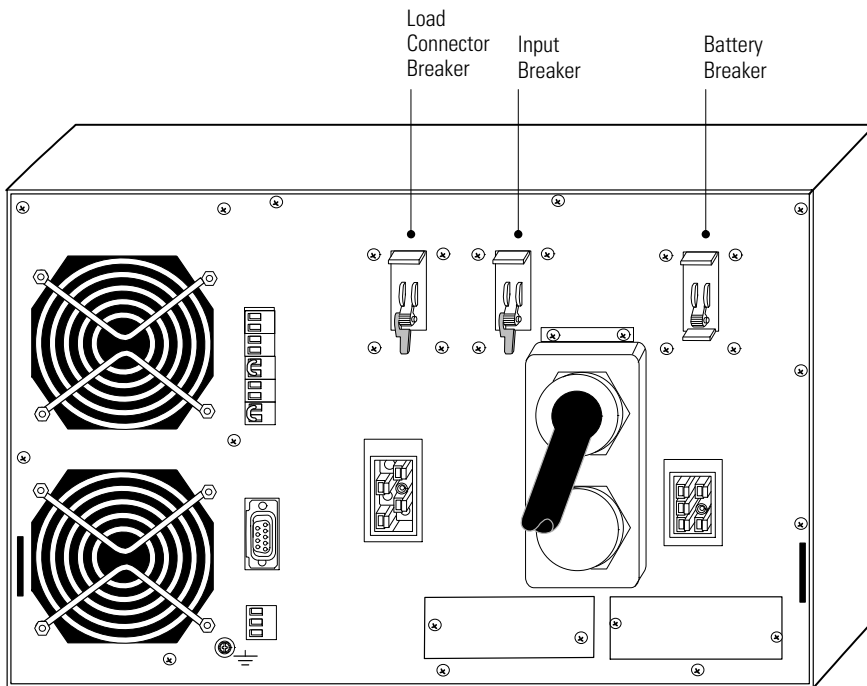

Figure 10. BladeUPS Module Rear Panel
1. Verify that all battery circuit breakers on all UPSs are in the OFF (O) position (see Figure 10).